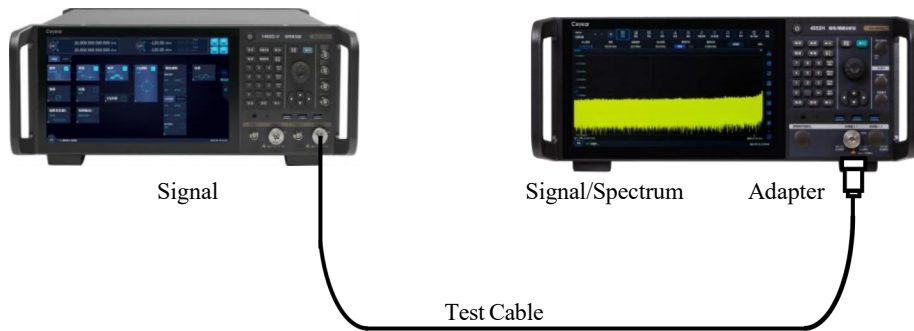

Figure 4.16 Connection settings for power statistics and measurement
**Step 2. Connect the RF output port of the signal source to the RF input port of the analyzer, as shown in Figure 4.16:**